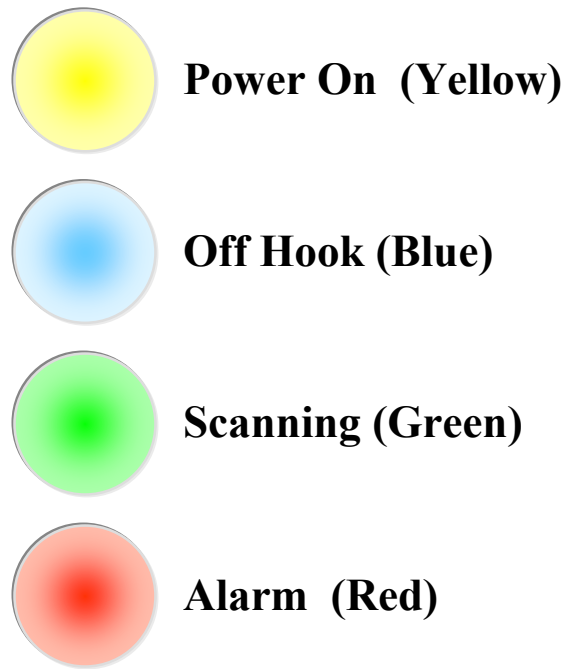

Figure 8
The Teleducer50 has four (4) indicators on its front panel in the order shown in Figure 8 below. The indicators give status of unit condition, operation in progress and a summary alarm of monitored sensors. A short description of each indicators meaning is given in Table 1.